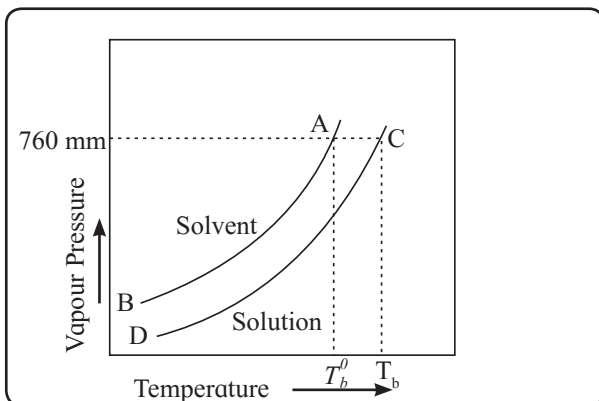

Fig. 2.6 : Vapour pressure-temperature of pure solvent and solution
2.8.1 Boiling point elevation as a consequence of vapour pressure lowering : To understand the elevation of boiling point, let us compare the vapour pressures of solution and those of pure solvent. The vapour pressures of solution and of pure solvent are plotted as a function of temperature as shown in Fig. 2.6.